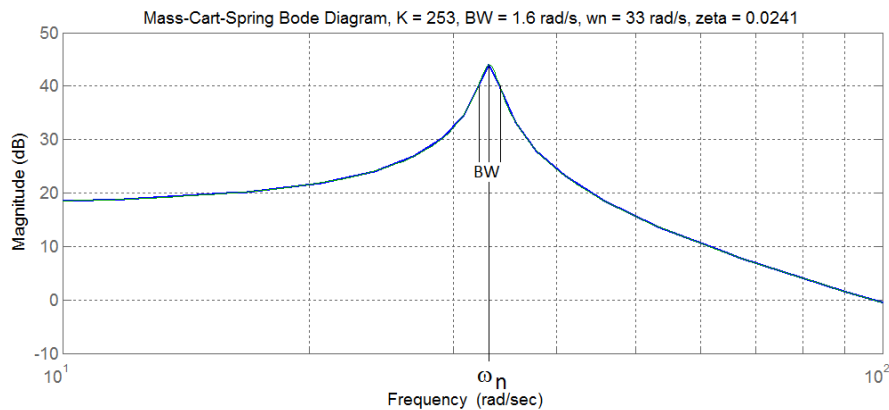

Figure 3: Mass-cart-spring underdamped step response
The frequency response has maximum amplitude at resonance. The center frequency is ω_n at resonance and the amplitude is $20\log_{10}(K)$. Note that this K is **not** the static gain, K_o , found in lab 1, this is the maximum amplitude of the system response in the frequency domain. The bandwidth is the difference between the two frequencies where the maximum amplitude drops by 3 dB. The narrowness of the peak is defined by the quality factor (Q) or the damping ratio, $\zeta = BW/(2\omega_n)$. Since the plant is unknown, there will be some iteration involved in fitting the theoretical Bode plot to the experimental frequency response data to achieve the best fit. Since the resonance frequency is so important for finding system characteristics, it is very important to have several data points around this point. Finally, the Bode plot will be used to determine an appropriate transfer function model. Figure 3 presents the Bode diagram for the transfer function,